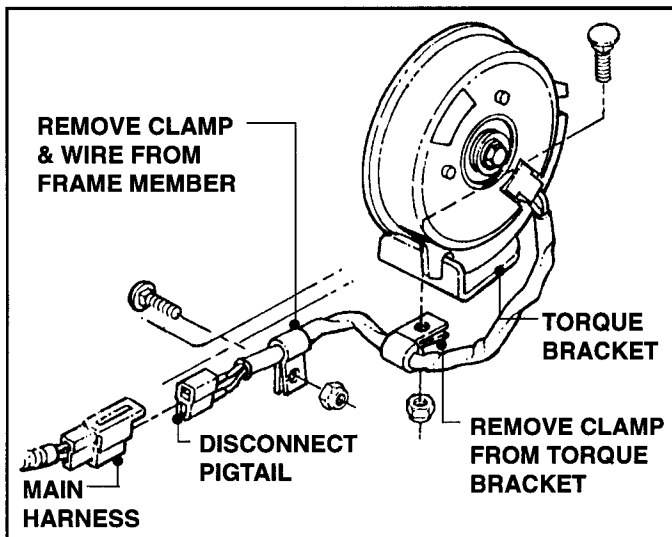

FIGURE 5.8
2. Remove Drive Belts from Electric Clutch, then disconnect Electric Clutch Pigtail from Main Harness. Remove Wire Clamps. See Figure 5.8.